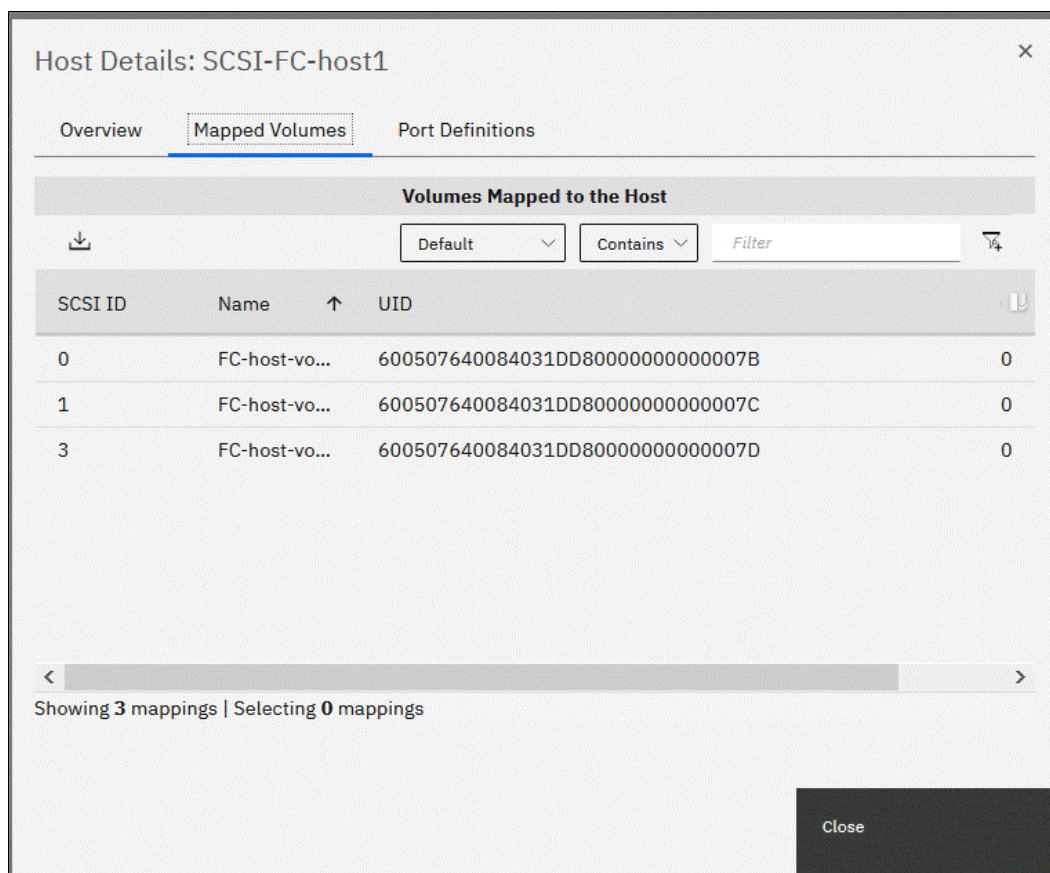

Figure 7-76 Host Details: Mapped volumes
3. After the host object is defined, it is visible in the hosts view, and volumes (VDisks) can be mapped to it, as described in Chapter 2, “Planning” on page 85. Details about the host can be found by double-clicking its entry in the Hosts view. After the volumes are mapped to the host, go into the Host Details window in the Mapped Volumes tab (see Figure 7-76) to verify that all the information is correct.